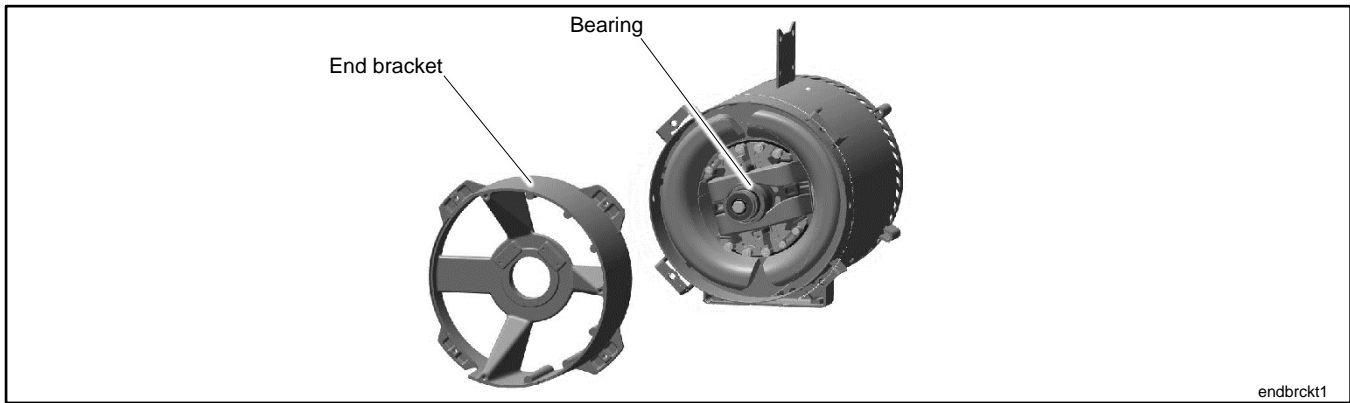

Figure 136 End Bracket and Bearing
- b. Place the end bracket onto the stator assembly, using your hands to make the initial fitting of the end bracket over the bearing. See Figure 136.